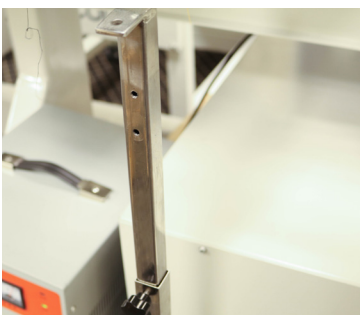

Figure 43
1. Begin by lifting the table support pegs. To do so, you will need to loosen the hex screw on the bottom of the rod by rotating your 5 mm Allen wrench counterclockwise. **See Figure 43.**